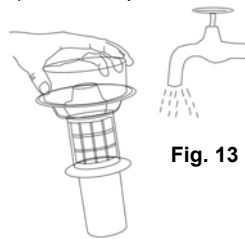

Fig. 13
1. Before replacing the HEPA filter in the HEPA Filter frame, you can (should) rinse the frame in lukewarm water by just running it under the tap to remove any dust that is adhering to the frame. (Fig. 13) Do NOT place in dishwasher.